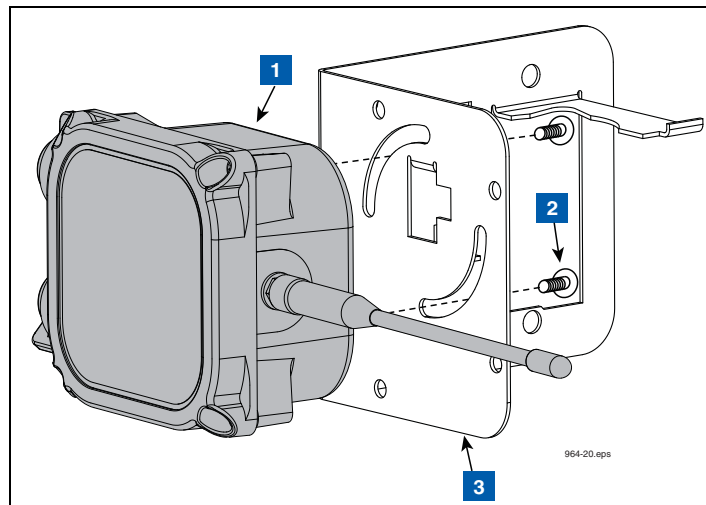

Figure 13. Attaching Transmitter To Battery Support Bracket
3. Using two taptite screws from the kit, attach the Transmitter housing to the side of the battery support bracket that has the two circular slots (see Figure 13). Do not tighten screws at this time.
#### LEGEND FOR NUMBERED BOXES IN Figure 13